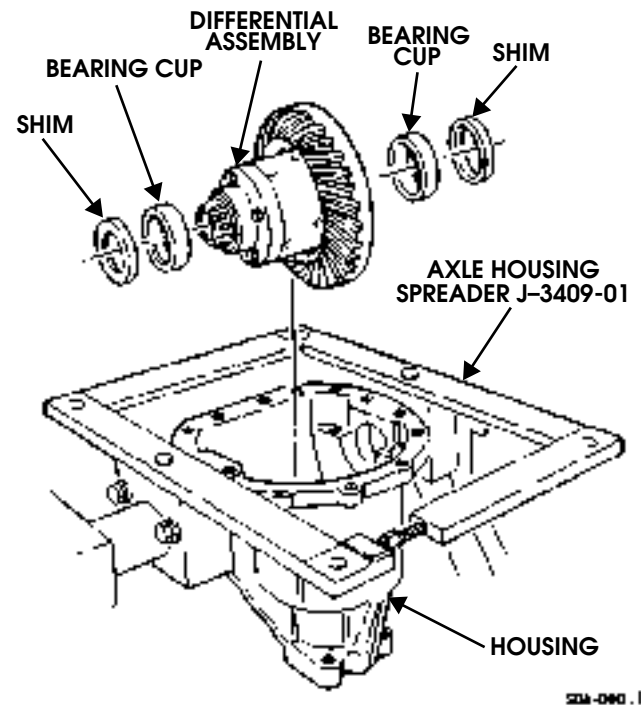

Figure 9-64: Differential Assembly
11. Remove differential assembly, two bearing cups, and shims from housing (Figure 9-64). Tag bearing shims and bearing cups for assembly.